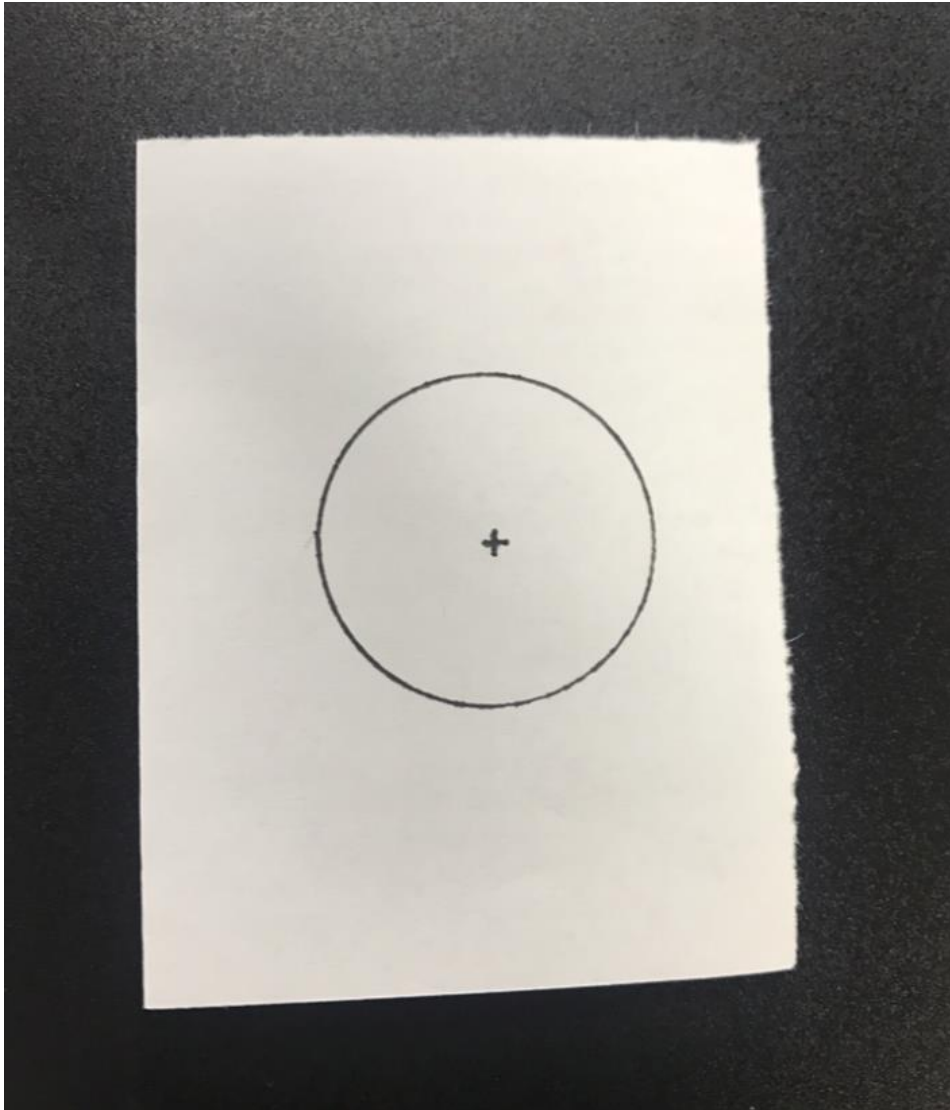

Figure 5.10 Put down a label on the conveyor
1. Put down a label on the conveyor, as shown in Figure 5.10.